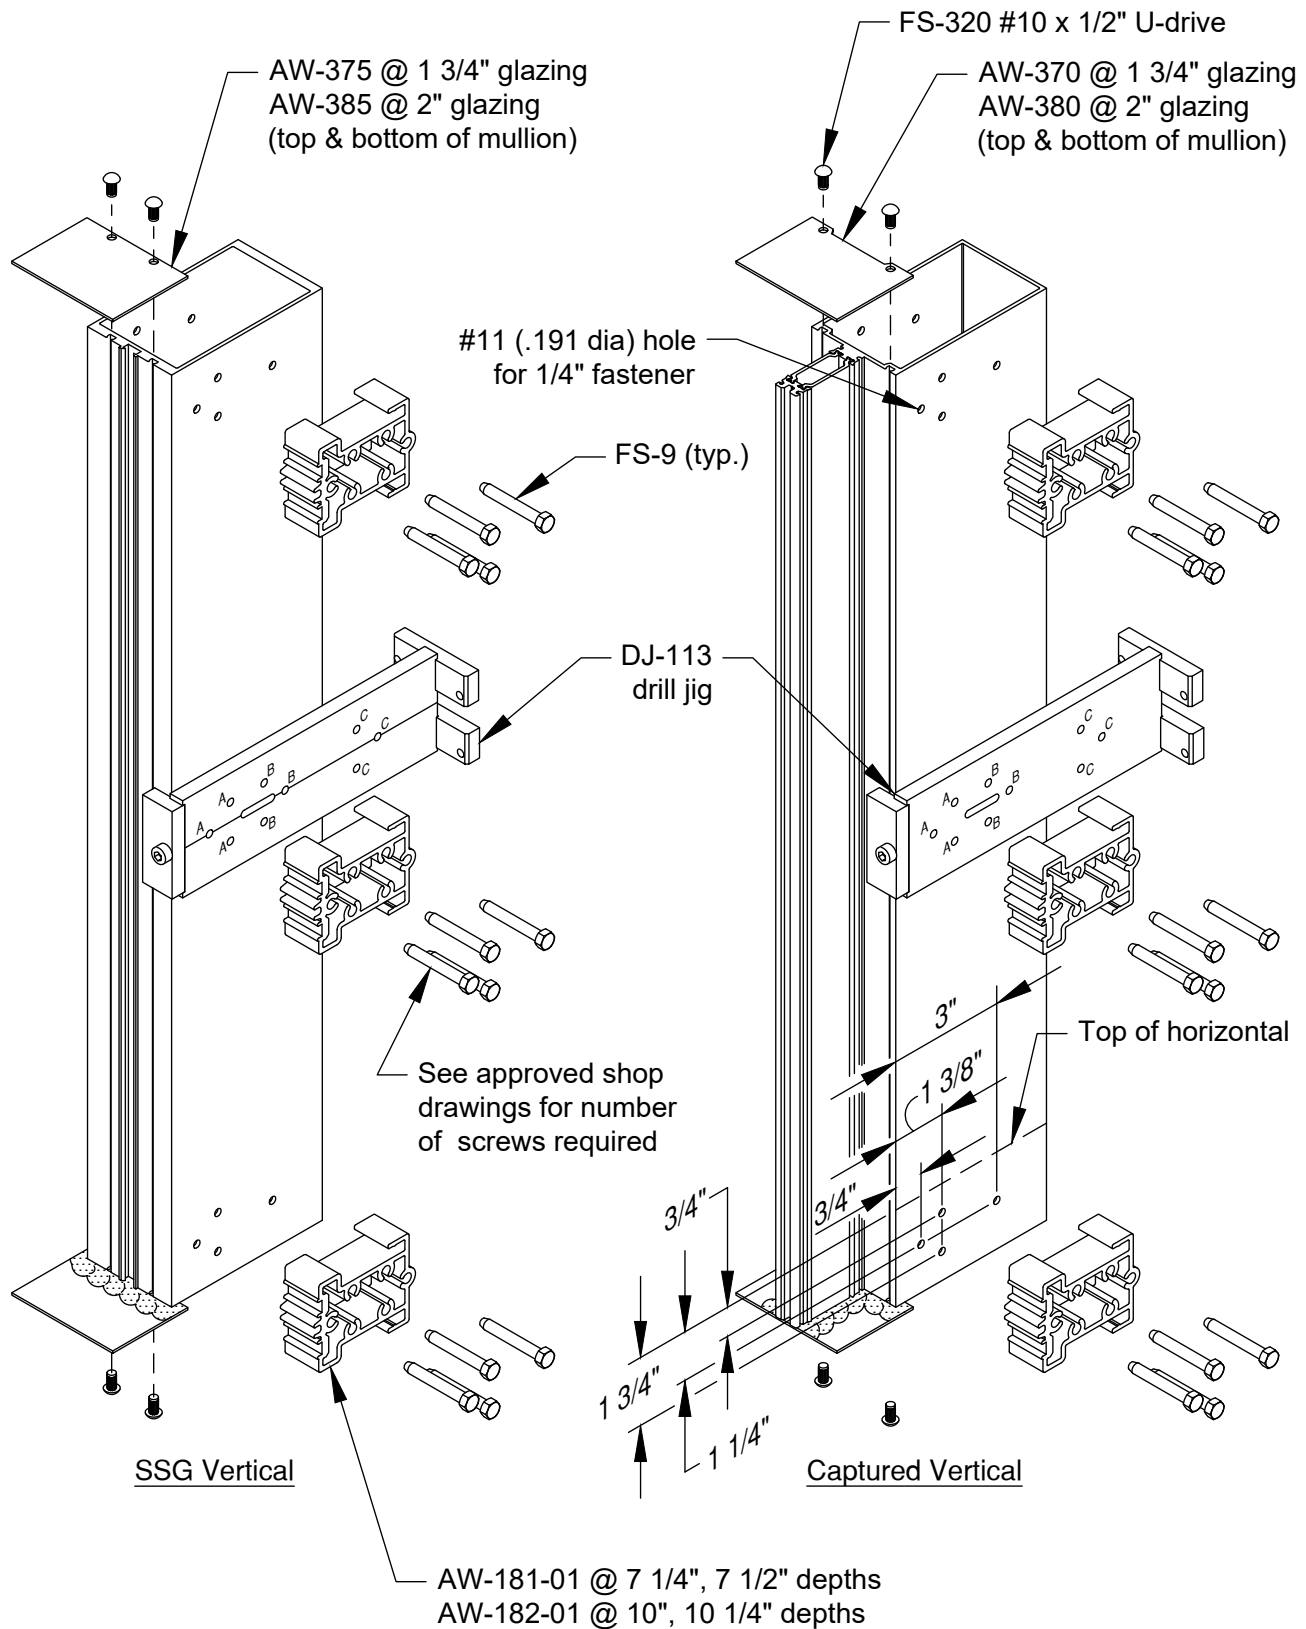

FIGURE 2
1.3 Fabricate vertical mullions for horizontal members using DJ-113. Drill holes for shear block using holes marked with "A" and "B" for 7 1/4" and 7 1/2" system, and "A" and "C" for 10" and 10 1/4" system. Consult with engineer to determine number of screws required for each shear block based on actual job conditions. **SEE FIGURE 2, page 8.** When working off horizontal centerlines, use the slot milled into the drill jig for aligning jig with centerline.
- 1.4 Install and seal mullion caps to top and bottom of all jamb and intermediate vertical mullions with (2) FS-320 #10 x 1/2" Drive screw. **SEE FIGURE 2.** Mullion caps at jambs must be modified. **SEE FIGURE 10.**
- 2.1.7 Attach shear blocks to all vertical members. **SEE FIGURE 2, page 8** for proper orientation on mullion.